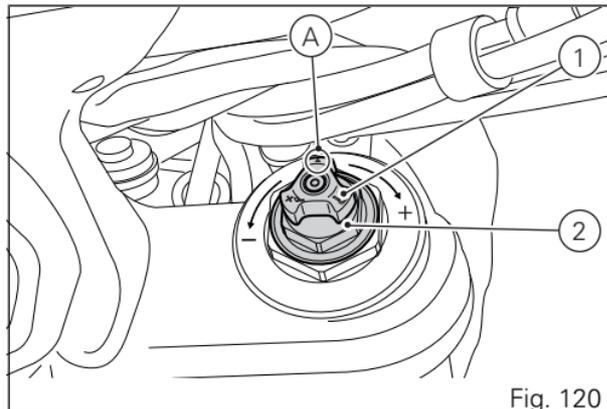

Fig. 120
- 1) for rebound damping (Fig. 120);
- 2) for inner spring preload (Fig. 120);
To change preload of the spring inside each fork leg, turn the hex. adjuster (2, Fig. 120) with a 22 mm hexagon wrench, starting from the fully open (clockwise) position.
From reference (A, Fig. 120), every full turn clockwise corresponds to 1 mm of preload of the spring, up to a maximum of 15 mm, corresponding to 15 full turns.